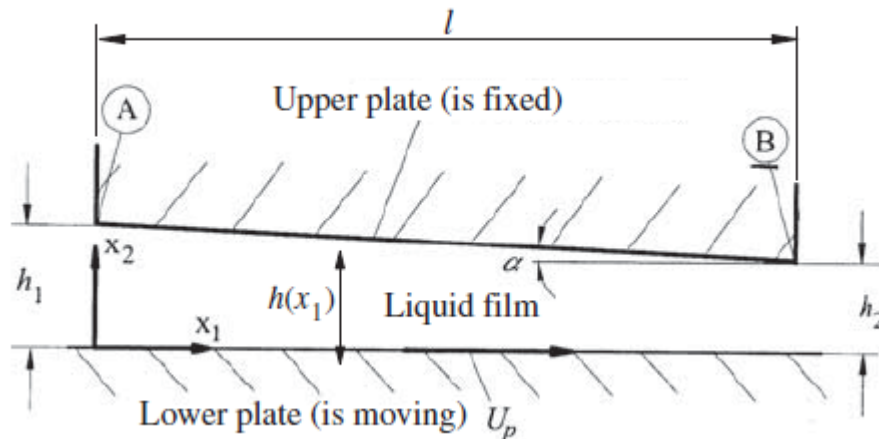

Figure 1. Plane lubrication film flow.
3. Consider the fluid flow between two plates (Plane lubrication film flow: basic flow of tribology) as shown in Figure 1. In the figure, U_p = velocity of the moving lower plate; α = inclination angle between the plates; $R(x_1)$ = variation of plate distance.